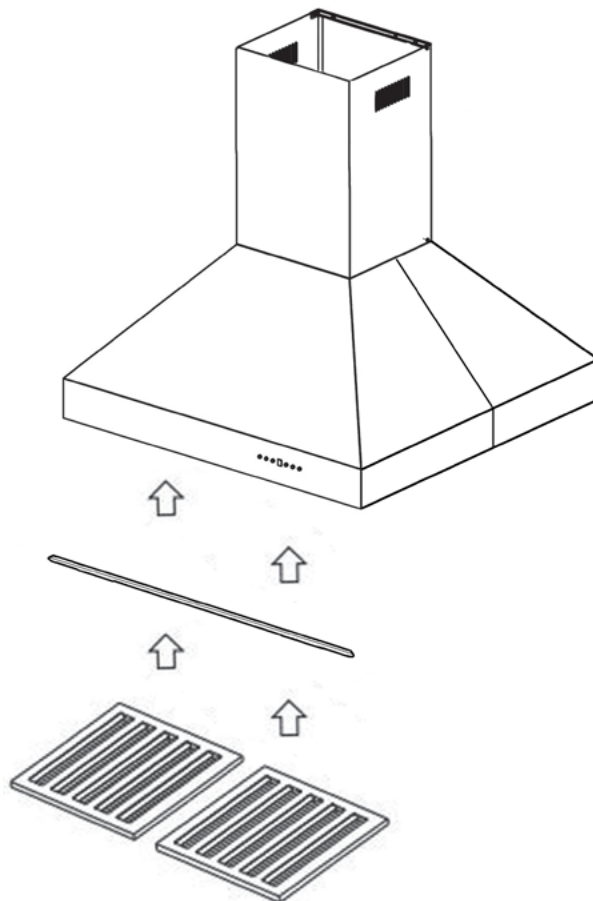

Figure 10
14. Install the plastic grease cup, baffle channel and baffle filters in a similar fashion as noted on page 11. *Figure 10*